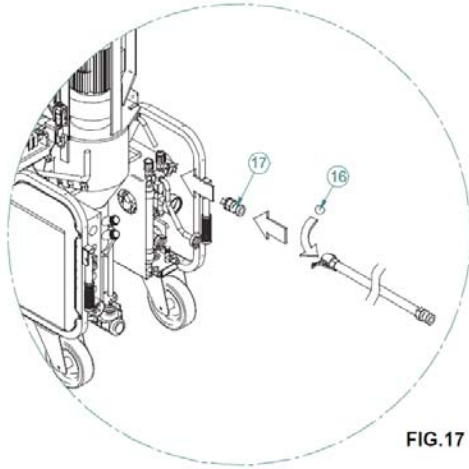

FIG.17
Remove the mixer and clean. Clean the mixing zone with a brush. Insert the scraper (ref.15) as shown in fig.17, close the mixing chamber, turn the main switch to the correct position (blue lamp ON) and then press the start pushbutton. Leave running for 5-10 seconds. until the mixing chamber is completely clean.
Stop the machine by means of the stop pushbutton, remove the scraper and refit the clean mixer. Proceed with pipeline cleaning. Insert a washing sponge (ref.16) at the start of the pipeline, connect the material delivery hose to the mortar hose-water hose coupling (ref.17), and then connect the latter to the auxiliary water valve. Insert the water pump and open the auxiliary water valve until the washing sponge comes out from the other end (fig.17).